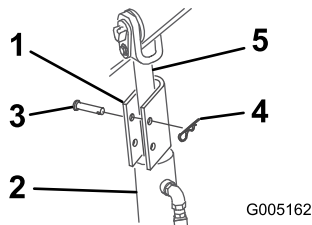

Figure 15
4. Position a cylinder lock over each lift-cylinder rod (Figure 15).
5. Secure each cylinder lock with a clevis pin and cotter pin (Figure 15).